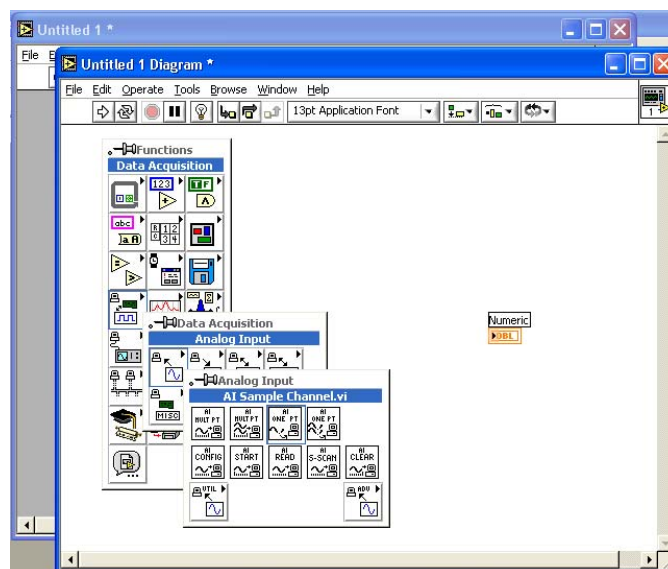

Figure 2.3.27. LabVIEW Diagram panel, and different menus.
3. On the gray **Front Panel**, select **Window**, then **Show Diagram** on the pull-down menu (or press Ctrl E to toggle between the Front Panel and Diagram windows). The Front Panel is the User Interface, whereas the diagram contains the source code. The **Diagram** panel should be white, and you should see the back of the **Numeric Indicator**. Right click on the white panel to pop up the **Functions** menu, and select **Data Acquisition** -> **Analog Input** -> **AI Sample Channel.vi**, as in Figure 2.3.27.